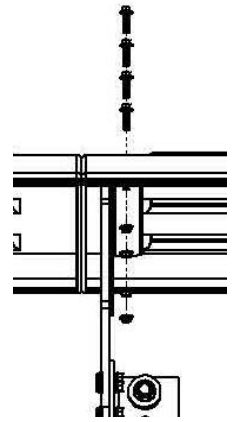

Figure 9
G. Drill four 5/16" holes through the fender using the holes in bracket PB5071 as a pattern (Figure 9).